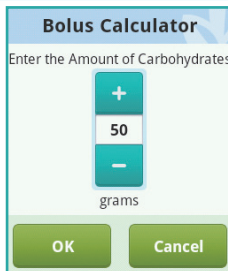

Figure 106
- 2 In the dialog box, enter the total amount of carbohydrates that you intend to eat (Figure 106) and press OK to move to the next step.